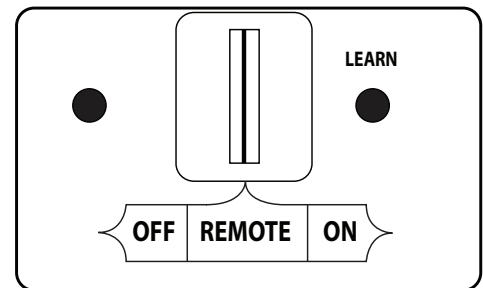

Fig. 37-1 Remote receiver detail (REMOTE)
1. Locate the 3-position switch on the remote receiver (see Fig. 37-1), and slide the switch to the **REMOTE** position.